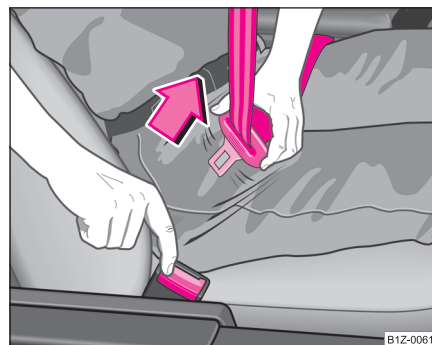

Fig. 112 Releasing lock tongue from belt lock
- Press the red button in the belt lock ⇒ fig. 112. The spring force causes the tongue of the lock to jump out.